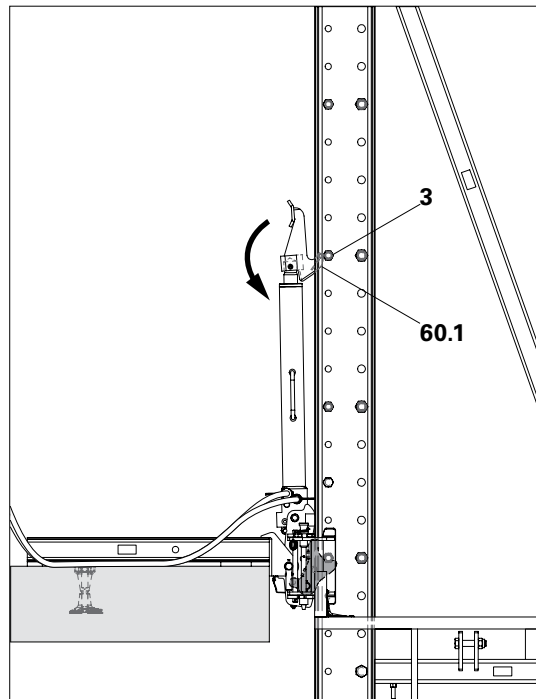

Fig. D4.06
1. Retract hydraulic cylinder until it tilts backwards, claw (60.1) slides past the Spacers (3) positioned underneath and engages again below. (Fig. D4.06)